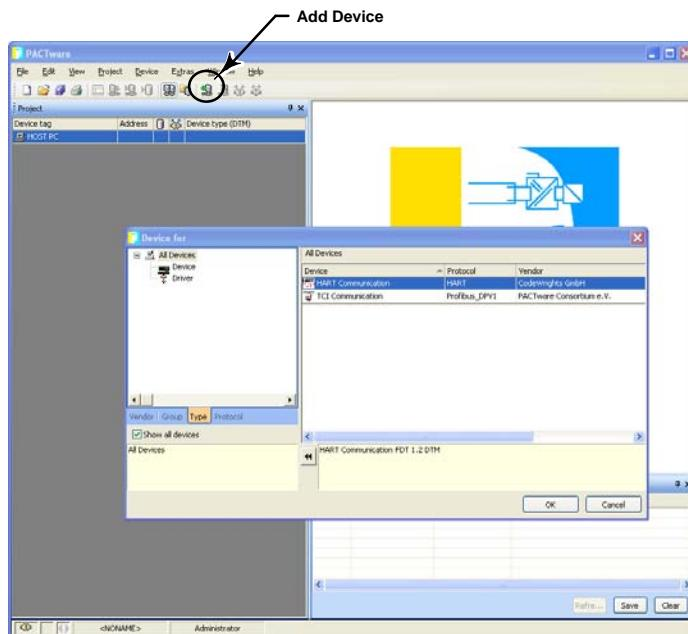

Figure 4-1. Select Add Device to Add the CommDTM
Step 2: Select Add Device, as shown in figure 4-1, and click on the appropriate CommDTM. Select OK.